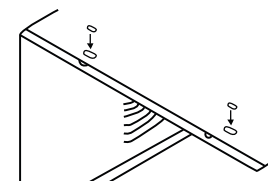

Fig.6
9. Add two foam inserts to holes in top of cabinet where shipping screws were removed from (see Fig.6)
1. Attach foam gasket to top angle above holes as shown in Fig. 6.